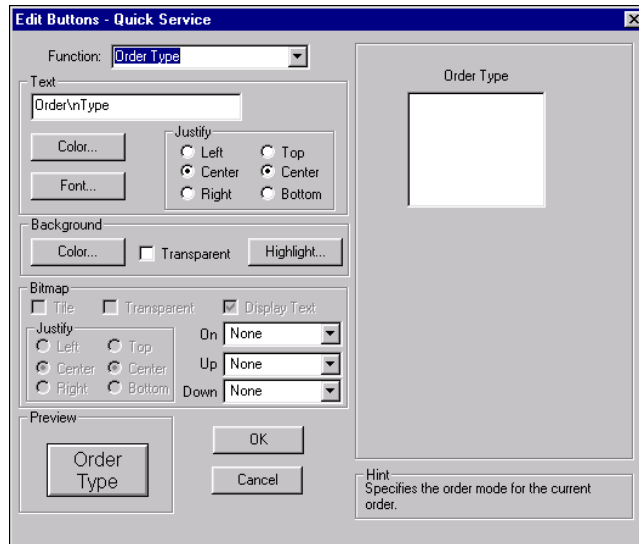

Figure 5-90 Order Type Button Function
1. Select **Order Type** from the **Function** drop-down list. An additional option displays, as shown in Figure 5-90: